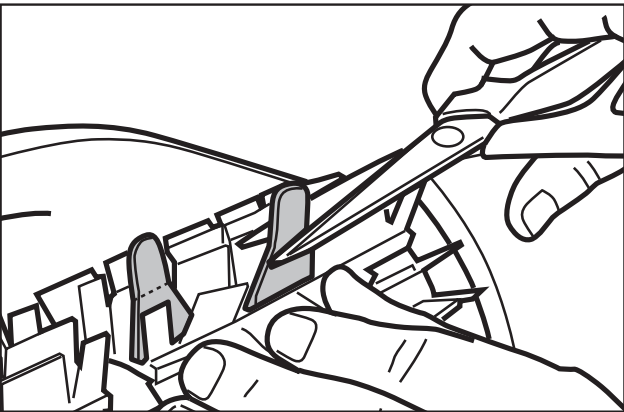

Figure 17. Cut Tabs
4. Use scissors to cut the tabs so they are no higher than the spikes as shown in Figure 17.